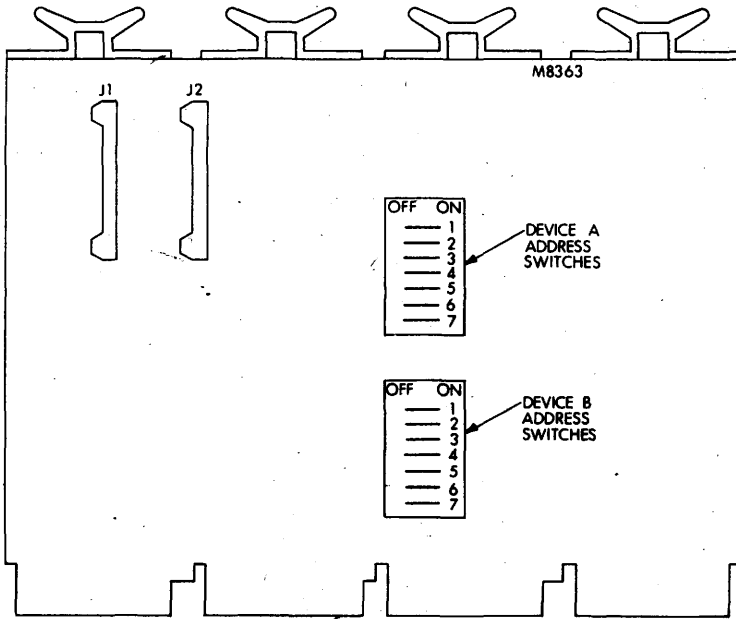

Figure 3 DR8-ED Connector and Switch Locations
**DEVICE SIGNALS**—Data and Control Signals are transferred between devices and interface by two cables that attach to connectors J1 and J2. The location of the connectors is shown on Figure 3. Table 1 lists the pin assignments of each connector and signal loading and driving capability.